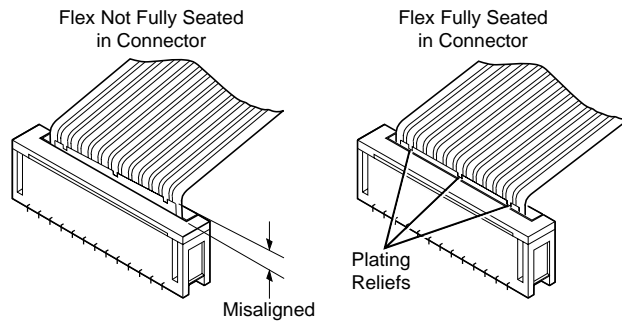

Figure 14 Seating the Flex
3. **a. Units using early front shield with tabs (no separate clips), skip step three (3); proceed to step four (4).**
*NOTE:* View the flex connection at a slight angle from the bottom of the radio (see Figure 14). If the flex is fully seated, the orange circuit plating will be parallel with the connector top surface and three reliefs in the plating will make the flex plating appear to be separated. If the orange plating of the flex is not parallel with the connector's top surface, or the three reliefs